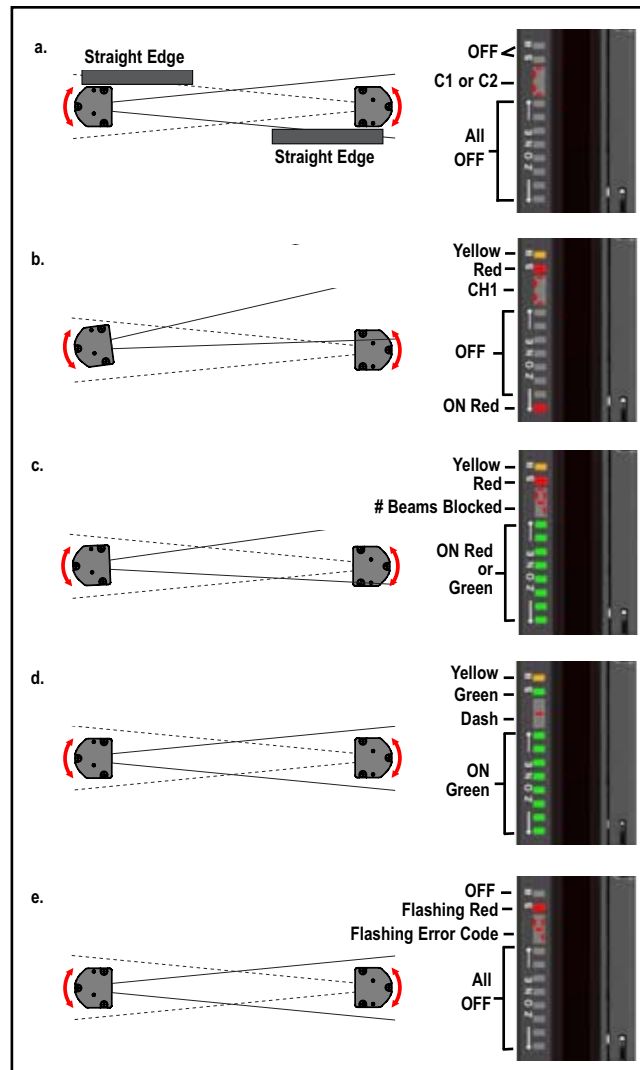

Figure 3-14. Optimum optical alignment
a. Ensure the emitter and receiver are pointed squarely at each other. A straight edge (e.g., a level) can determine the direction the sensor is facing (see Figure 3-14). The sensor face must be perpendicular to the optical axis.
d. To optimize alignment and maximize excess gain, slightly loosen the sensor mounting screws and rotate one sensor left and right, noting the positions in each arc where the Status indicators turn Red (Blocked condition); repeat with the other sensor (see Figure 3-14). Center each sensor between those two positions and tighten the mounting screws, making sure to maintain the positioning as the screws are tightened.